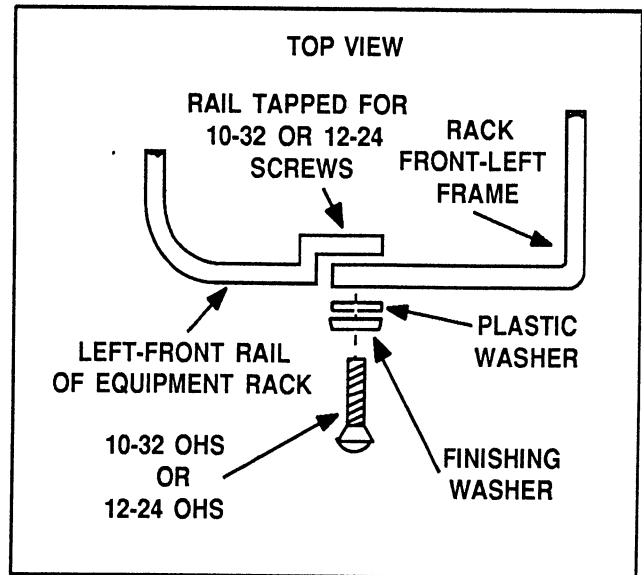

Figure 6-5. Securing rack-adapted Spectrum Analyzer to front rails of equipment rack.
4. Secure the front frames of the rack adapter to the front rails of the equipment rack using four oval-head screws, four finishing washers, and four plastic washers, as shown in Figure 6-5.